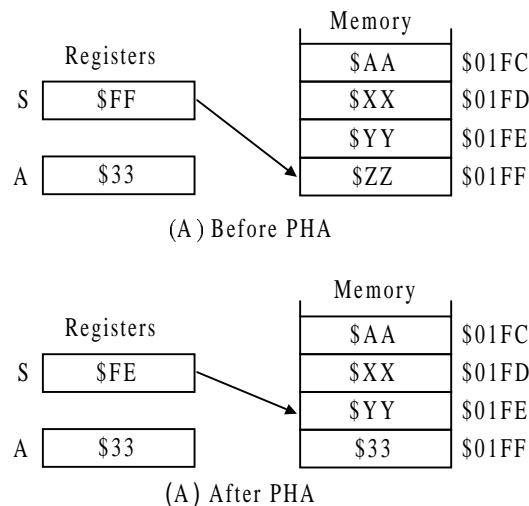

Fig. 1-2-2 How a register is pushed onto the stack
Figure 1-2-2 shows the effect of the PHA instruction on the Stack. In Fig. 1-2-2 (A), the Stack Pointer (S) is pointing to the top of the stack (location \$01FF), and the accumulator contains \$33. After PHA is executed (Fig. 1-2-2 (B)), the Stack Pointer has been decremented to \$FE and the contents of the accumulator have been stored in location \$01FF. After the PUSH, if you execute a PLA instruction, the Stack Pointer will be incremented to point to \$01FF and the accumulator will be loaded with the contents of location \$01FF.